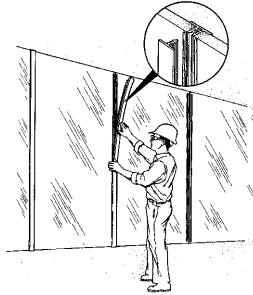

Figure 9
6. Apply a continuous bead of construction-grade caulk/sealant along the vertical edges of the insulation boards, then position and press a PVC top "T" section in the PVC base strip until it snaps into place (Figure 9).